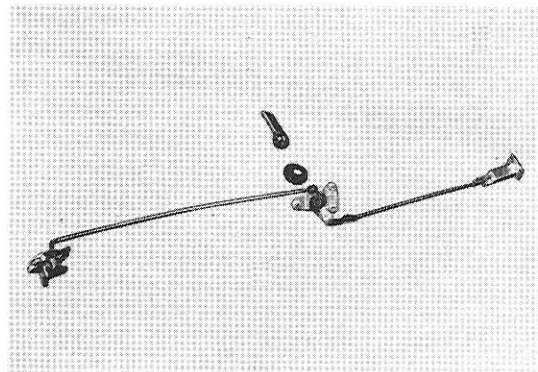

Fig.10-45 Removing Lock B1218
- b. Inner rear view mirror. To remove, remove one sun visor hanger attaching screw, and pull the hanger upwards. Remove the three attaching screws, and remove the inner rear view mirror. Never remove the screw shown in figure 10-45 as it will damage easily.